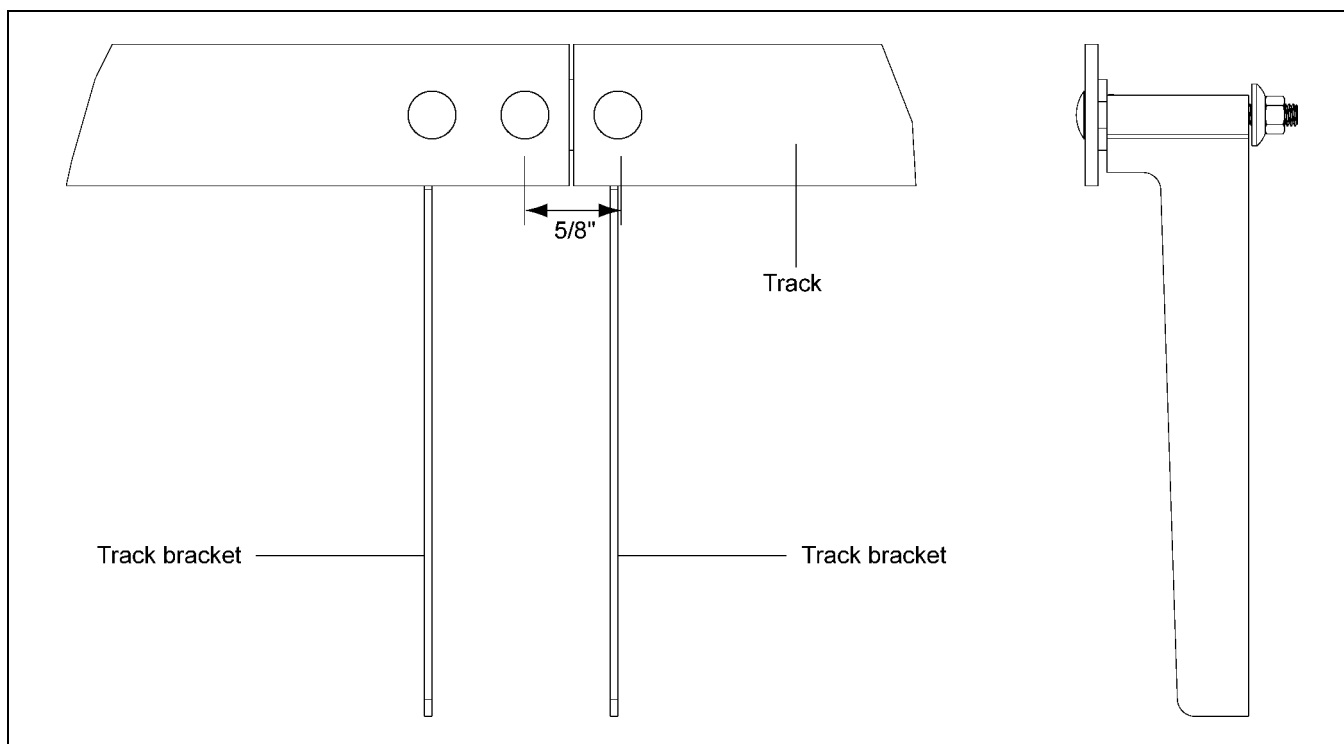

Figure 4E
- c. Use the hole in the track as a guide to drill or punch the next hole and install an additional track bracket and bolt; repeat this process around the bin. Tighten bolts as you go. (See Figure 4E.)